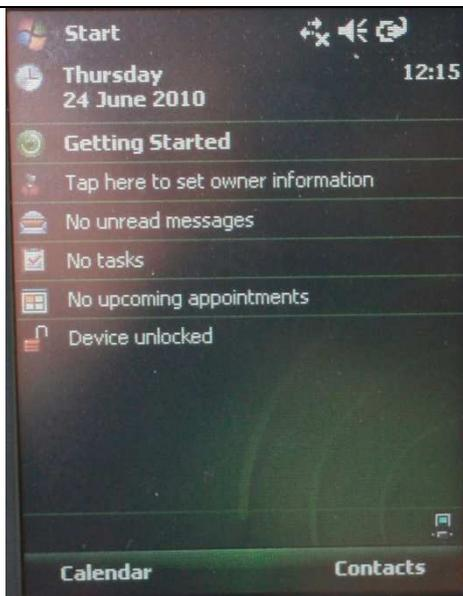

Figure 2 Set device Date and Time
- Setup system Date and Time under Start->Settings (Figure 2)